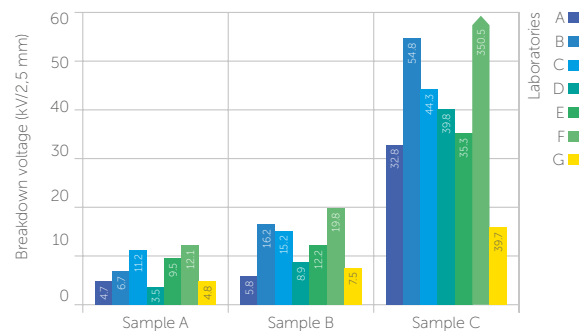

Figure 6. Reliability and Improvements of Water Titration*** by the Karl Fischer Technique
6. Furthermore, oil samples can be contaminated at the sampling time or in the laboratory. As the moisture level is anyway very low in oil, any contamination (simple contact with the ambient air) will affect the sample PPM result. The chart (figure 6) shows PPM analysis results of 7 different laboratories on 3 different oils.